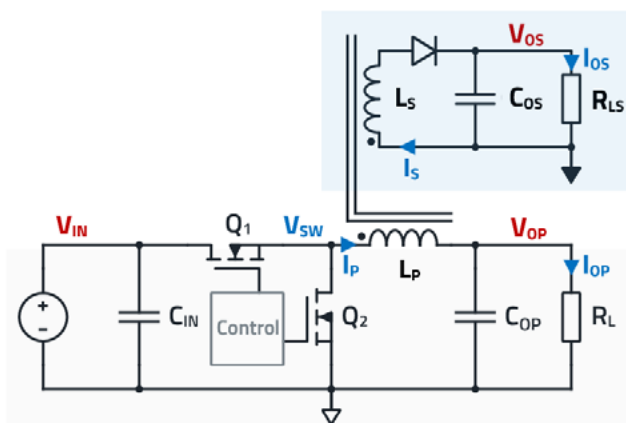

Figure 1: Schematic of a buck converter with additional isolated output.
The power stage of a synchronous buck converter is shown in Figure 1, highlighted in grey. Considering 'ideal' components, the duty-cycle (D) of the PWM signal driving the control transistor (Q_1) sets the converter output voltage (V_{OP}), as follows:
across L_2 during the off-time. By adding a peak rectifier circuit (diode and capacitor) to the second winding (secondary) as highlighted in blue in Figure 1, the diode will be forward-biased only during Δt_{OFF} , and V_{OP} will also appear across the secondary load (R_{LS}) (ignoring D_1 voltage drop).